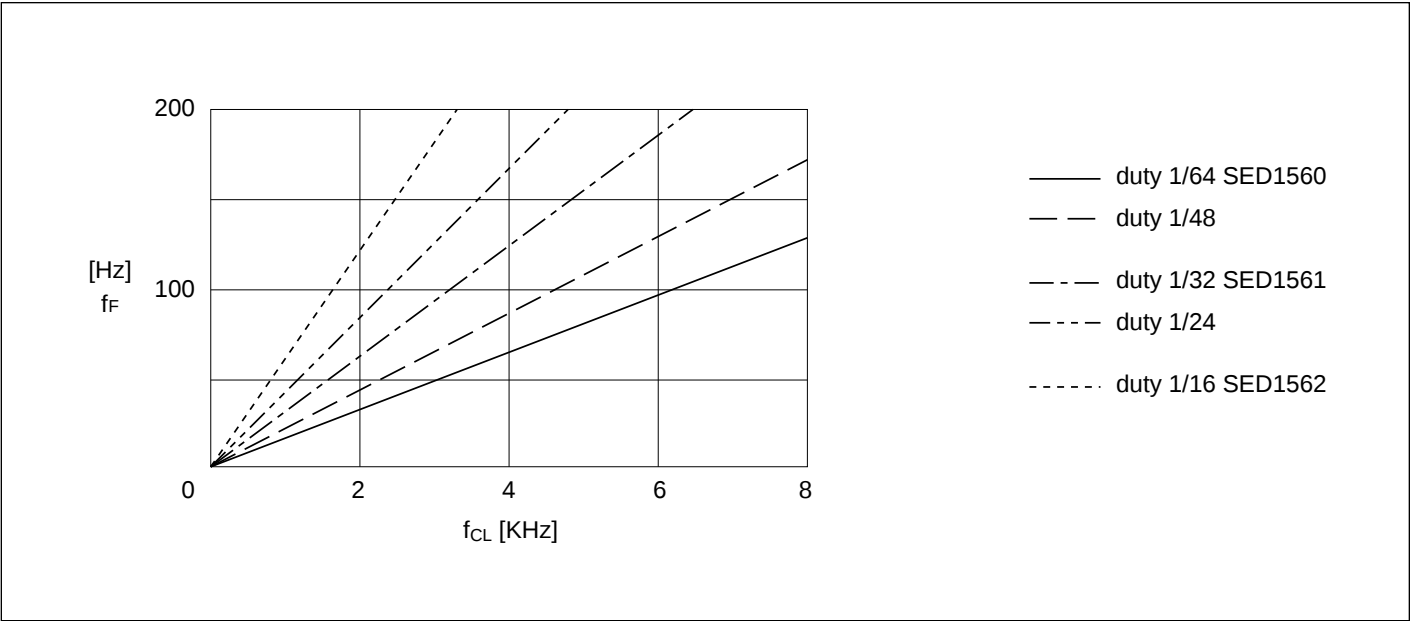
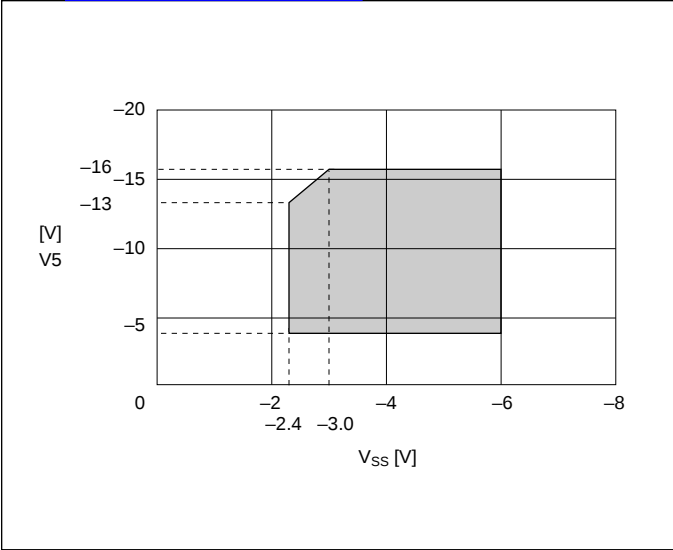

Figure 3.2 External clock (f_{CL}) vs. frame frequency [SED1560 Series]
Figure 3.3
- *2. The operating voltage range of the V_{SS} and V_5 systems (see Figure 3.3). The operating voltage range is applied if an external power supply is used.
- *3. Pins A0, D0 to D7, $\overline{RD}$ (E), $\overline{WR}$ (R/W), CS1, CS2, FR, SYNC, M/S, C86, SI, P/S, T1 AND T2.
- *6. Pins A0, $\overline{RD}$ (E), $\overline{WR}$ (R/W), CS1, CS2, CL, M/S, $\overline{RES}$, C86, SI, SCL, P/S, T1, and T2.
- *8. The resistance when the 0.1 -volt voltage is applied between the "On" output terminal and each power terminal (V_1 , V_2 , V_3 or V_4). It must be within the operating voltage (2).
- *9. The relationship between the oscillation frequency, frame and R_f value (see Figure 3.2).